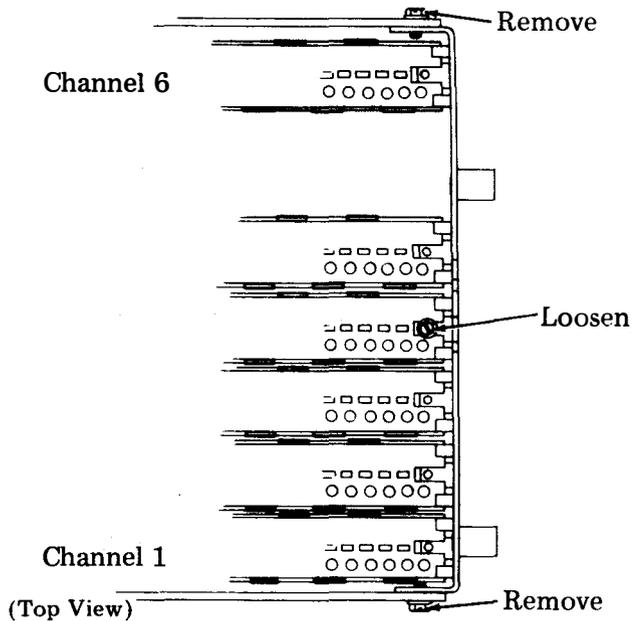

Fig. 28—Right Side Frame Removal
- (c) Remove right side frame by removing four screws and loosening one screw (Fig. 28).